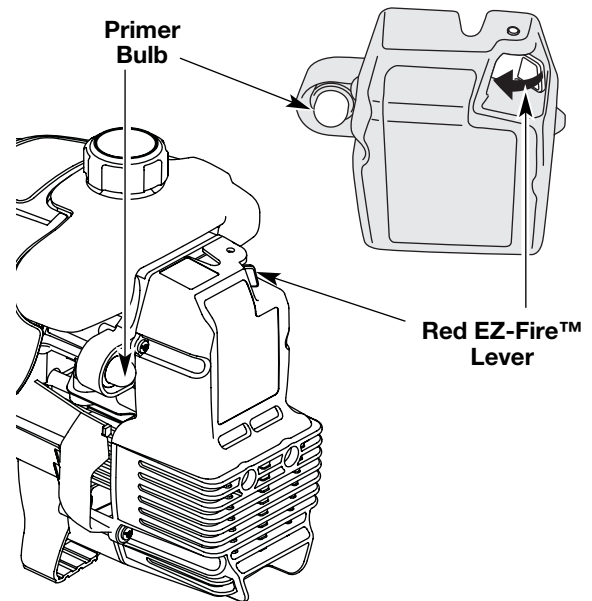

Fig. 4
3. Fully press and release the primer bulb 10 times, slowly. Some amount of **fuel should be visible in the primer bulb** and fuel lines (Fig. 4). If you can't see fuel in the bulb, press and release the bulb as many times as it takes before you can see fuel in it.
4. **Push the red EZ-Fire™ lever towards the primer bulb** until it clicks and locks into place (Fig. 4).